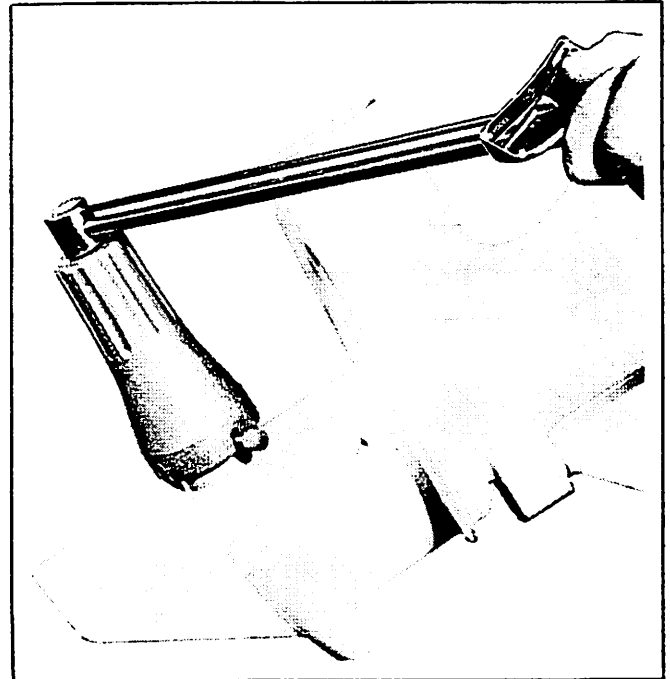

Figure 2. Tightening Water Pump Cover
11. Set pins of Water Pump Cover Tool (91-24117) into cover holes and tighten counterclockwise (left hand thread). (Figure 2) Torque cover to correct value. Refer to "Torque Specifications", Page 2B of Miscellaneous Section VIII.